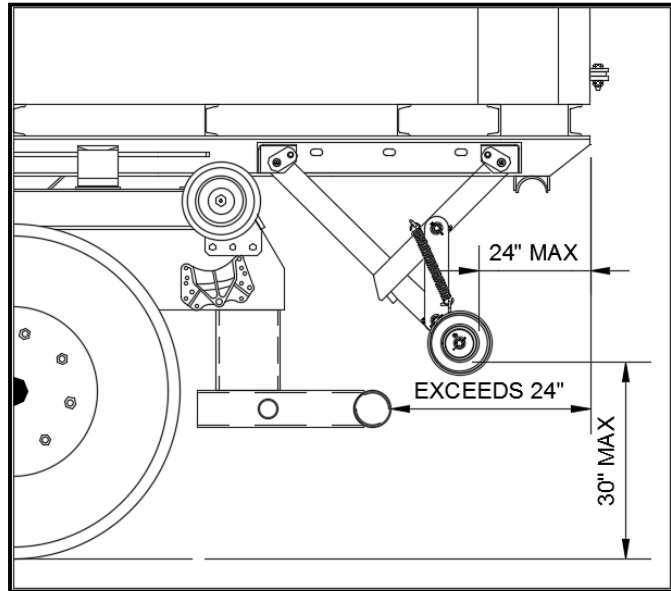

Figure 1
1. Review all directions and diagrams provided before starting bumper installation. Typically, a drop down bumper is needed when the rear of the container extends beyond the back of the truck such that the distance between the truck bumper and container rear exceeds 24" (See Figure 1). Office of Motor Carrier Safety (OMCS) Regulation 393.86 requires that no bumper be located more than 30" off the ground when the truck is empty, and the end of the bumper should not be located more than 24" from the extreme rear of the vehicle, including truck bodies (See Figure 1).